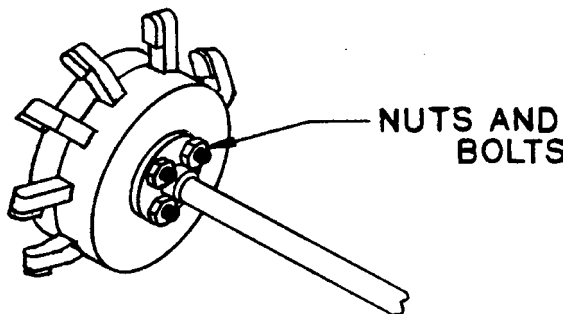

fig. 12
The cutter head is fastened to the mounting flange on the spindle with four 3/8-16 x 1-3/4" bolts. Be sure to check them frequently for tightness. (Figure 12)
1. Remove entire cutter head (see figure 12) by removing the four 3/8"-16 nuts and bolts.